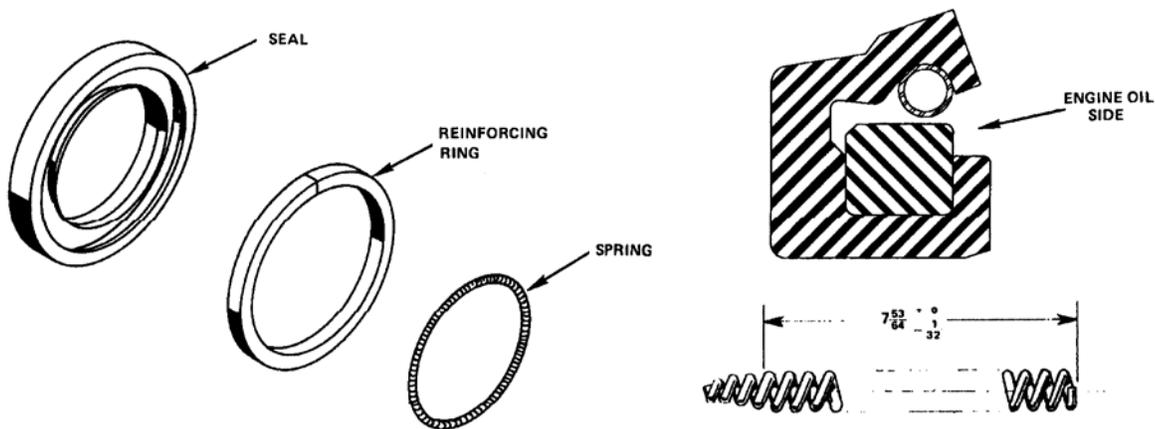

FIGURE 2
- A. Use only oil seal assembly P/N 641250 which consists of an oil seal, retainer ring and spring P/N 641306. Check the spring length. It should be 7-53/64" $\frac{+0}{-1/32}$ in length. (See Figure 2.)